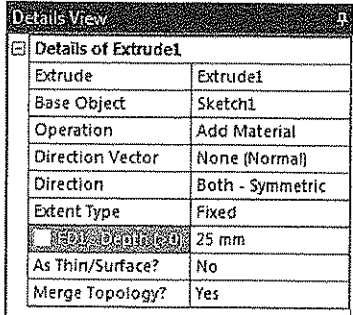

Figure 3-36 Specifying the depth of material addition in the **Details View** window
- 4. Enter **25** in the **FD1, Depth (>0)** edit box of the **Details View** window, refer to Figure 3-36.